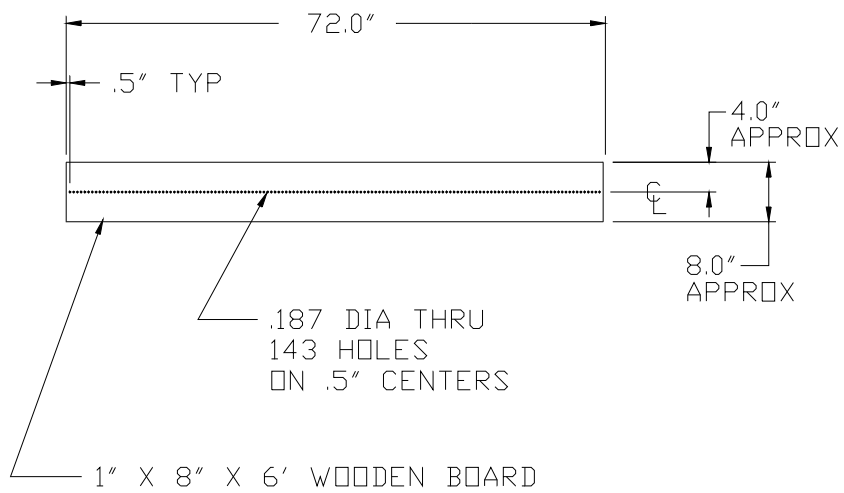

FIGURE 2
- A3. Obtain a wooden board having the approximate dimensions: 1" thick, 8" wide, and 6' long. Drill 3/16" diameter holes (make sure the edges are clean) along the centerline at 1/2" intervals. See Figure 2.